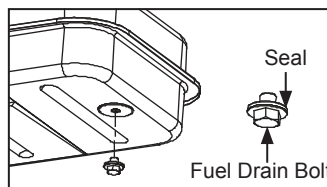

Figure 10. Drain Bolt
2. Remove fuel drain bolt from rear bottom side of fuel tank using 3/4" socket or adjustable wrench and drain. (For RFA135C/RFA180CV/RFA220CV Models Only. See Figure 10)
5. Reinstall fuel drain bolt to Fuel tank and tighten firmly using 3/4" socket or adjustable wrench. (RFA135C/RFA180CV/RFA220CV Models Only. See Figure 10)